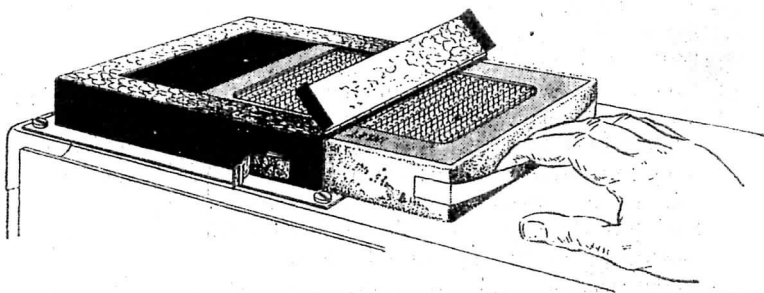

FIG. 3. REMOVING AIR FILTER
- (10) Removing air filter (see Fig. 3). Clean filter daily by knocking it out on its front edge.
As already explained, the amplifier must be tested every time before it is used. Table I (p. 13) shows how to test it. The tests should be done DAILY, even though the amplifier is not going to be used. They MUST be done in the order given. For instance, test 5 will not work unless you have just done 4. The tests must be done AFTER the daily tests on the Wireless Set No. 19 have been carried out and with the set switched on. The air filter must be cleaned daily (see Fig. 3).